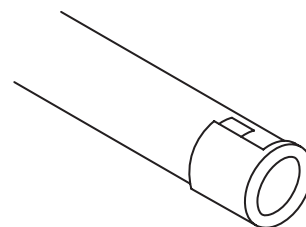

Figure 25– Injector Holder On Outlet Burner Tube
2. Inspect burner, pilot, and primary air inlet holes on injector holder for dust and dirt (see Figure 25).